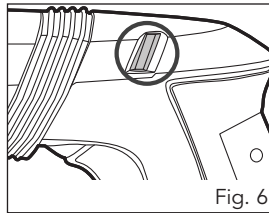

Fig. 6
4. Hold the rotary hammer drill to the work surface. Apply enough pressure on the rear handle so that the press control indicator on the side of the housing goes green (Fig. 6). The rotary hammer drill will work most efficiently in this position. If you apply excessive pressure the indicator will go red. This guide prevents overloading of the tool.